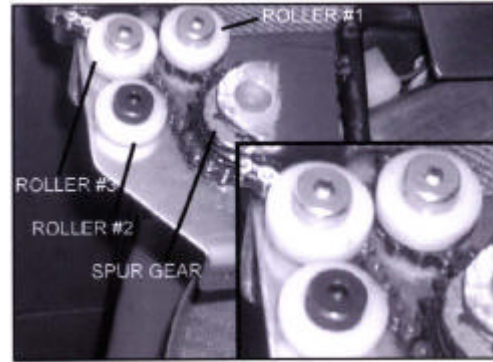

FIGURE 2-1: CHAIN ASSEMBLY DETAIL
- b. Refer to **Figure 2-1**. Route chain around three rollers and spur gear.